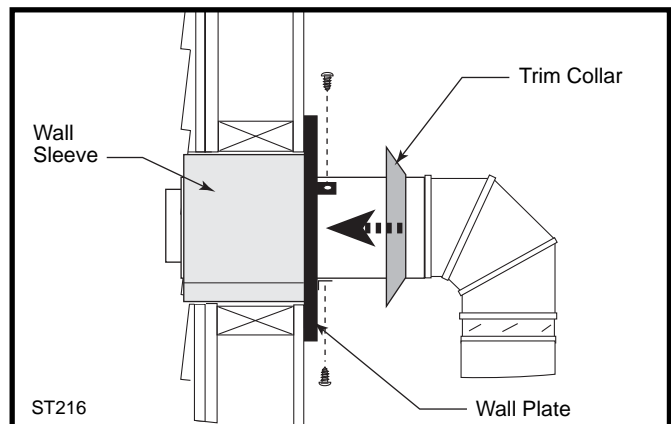

**Fig. 30** Determine the vertical pipe length.
**4. For CFM Vent Pipe only:** If necessary, measure to determine the vertical length (X) of pipe required from the adapter pipe to the wall cutout centerline, including a 2" overlap at the joint. (Fig. 30) use a hacksaw or tin snips to trim the pipe as needed.